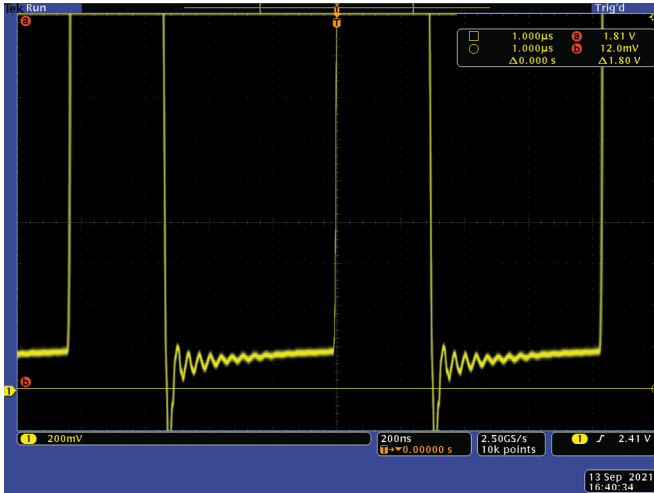
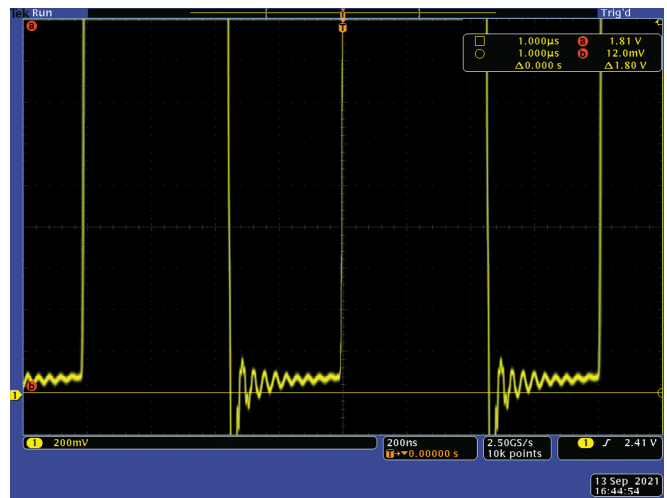
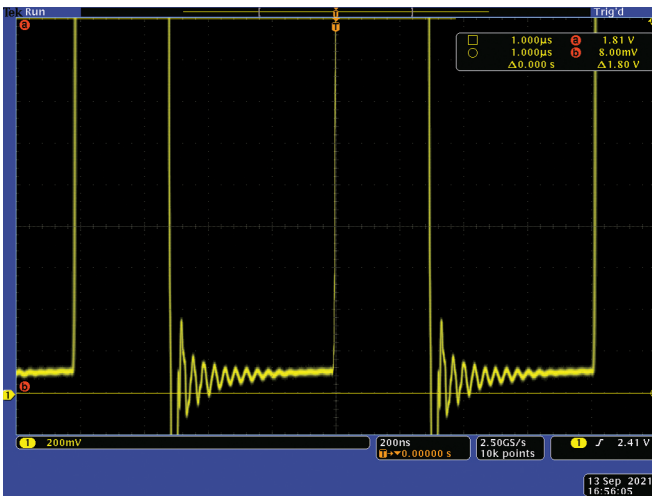
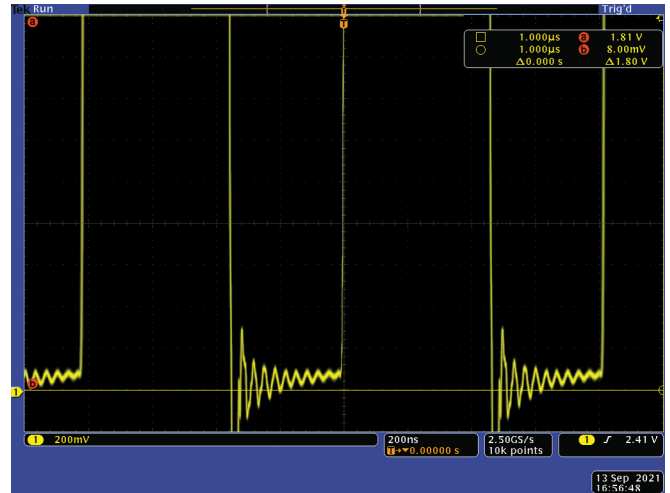

Figure 2. Switch node voltage, 2 V input, nonbootstrapped.
Figure 3. Switch node voltage, 3 V input, nonbootstrapped.
Figure 6. Switch node voltage, 2 V input, bootstrapped.
Figure 7. Switch node voltage, 3 V input, bootstrapped.
Probing the switch node (SW) tells us a lot about how a DC-to-DC converter is performing. When the FET is switched on, the inductor current ramps up causing the bottom of the switch node voltage to ramp, proportional to the FET's ON resistance. The lower this voltage, the lower the ON resistance of the FET. Hence, the lower the losses in the FET for a given current. Figure 2 shows the switch node, in nonbootstrapped configuration, with a 2 V battery voltage. The bottom of the switch node voltage shows a peak value of about 180 mV.
Increasing the battery voltage to 3 V gives the switch node waveform shown in Figure 3. Here we notice the duty cycle has gone down due to the higher battery voltage, but also that the low part of the switch node voltage is at a noticeably lower level, peaking at about 80 mV. However, since the FET current with a 3 V battery voltage is lower than that with a 2 V battery voltage, it is difficult to see if the ON resistance has indeed reduced.
Figures 6 and 7 show the bottom of the switch node voltage in bootstrapped mode. It is important to note that bootstrapping only affects the supply voltage to the controller IC. It does not affect the power path (inductor and output diode). Therefore, we can now directly compare the 2 V bootstrapped and nonbootstrapped switch node voltages (in Figure 6 and Figure 2) and the 3 V bootstrapped and nonbootstrapped switch node voltages (in Figure 7 and Figure 3).